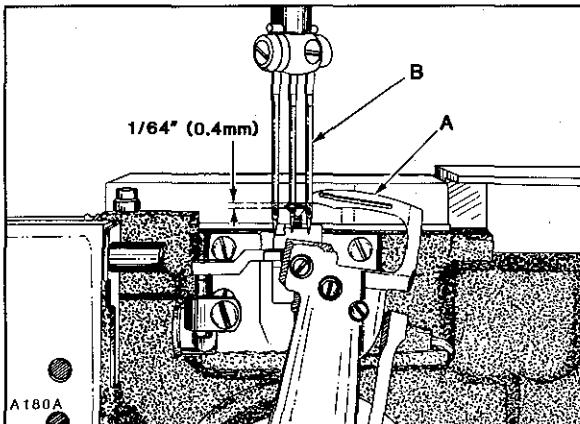
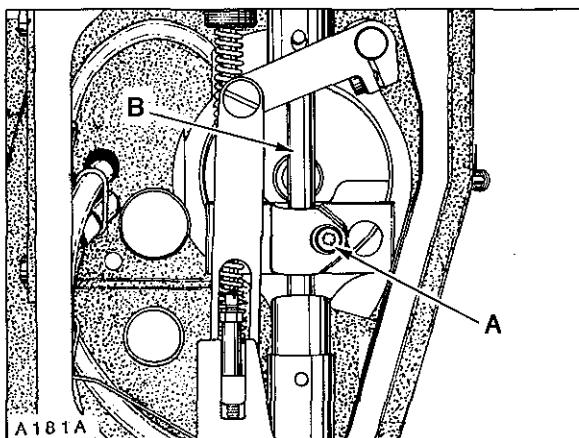

Fig.11
Fig.12
Turn handwheel in operating direction until POINT of RIGHT looper (A, Fig. 11) is even with the LEFT side of RIGHT needle (B). TOP of needle eye should be  $1/64$  inch (.4mm) below the undersurface of looper blade, as shown in Figure 11. Adjustment can be made by loosening screw (A, Fig. 12) and move needle bar (B) up or down as required. TORQUE screw (A).